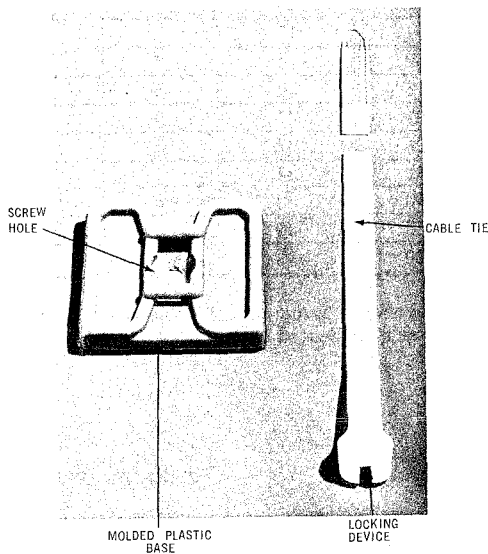

Fig. 8 – Typical Plastic Anchor
3.11 The Plastic Anchor is intended for use with wood screws when making attachments to masonry, brick or concrete, (see Fig. 8.) See shipping carton for size of anchor, hole and screw.